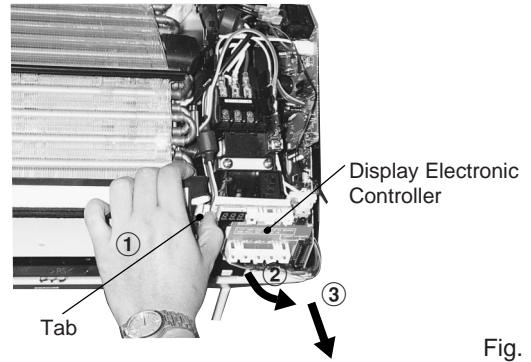

Fig. 13
1. Release the Display Electronic Controller from the tab as shown in Fig. 13.